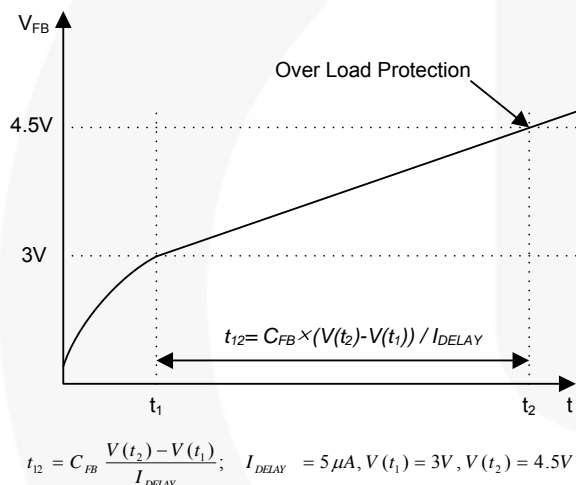

Figure 19. Overload Protection (OLP)
4.1 Overload Protection (OLP): Overload is defined as the load current exceeding a pre-set level due to an unexpected event. In this situation, the protection circuit should be activated to protect the SMPS. However, even when the SMPS is operating normally, the overload protection (OLP) circuit can be activated during the load transition. To avoid this undesired operation, the OLP circuit is designed to be activated after a specified time to determine whether it is a transient situation or an overload situation. If the output consumes more than the maximum power determined by I_{LIM} , the output voltage (V_O) decreases below its rating voltage. This reduces the current through the opto-coupler LED, which also reduces the opto-coupler transistor current, thus increasing the feedback voltage (V_{FB}). If V_{FB} exceeds 3V, the feedback input diode is blocked and the $5\mu A$ current source (I_{DELAY}) starts to charge C_{FB} slowly up to V_{CC} . In this condition, V_{FB} increases until it reaches 4.5V, when the switching operation is terminated, as shown in Figure 19. The shutdown delay time is the time required to charge C_{FB} from 3V to 4.5V with $5\mu A$ current source.